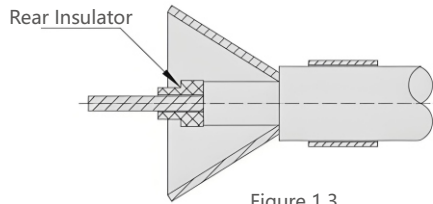

Figure 1.3
③ Install the rear insulator onto the central conductor of the cable, and ensure the tail of the rear insulator is tightly pressed against the cable insulation medium (as shown in Figure 1.3).